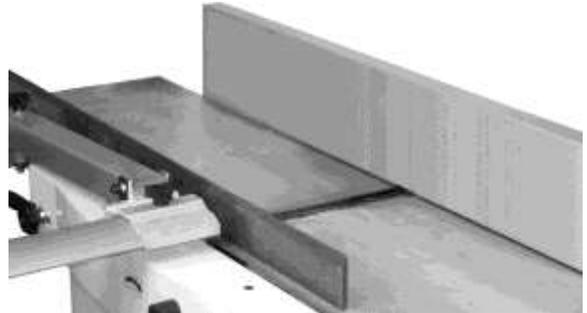

Figure 12
5. Place a straight edge (D) across the front of the outfeed table (F) and extending over the infeed table (G). Note the position of the infeed table (G).
Note: The position of the straight edge as shown in figure 12 with respect to the fence (H).
6. Raise the infeed table (G) until it contacts the straight edge (D).
The straight edge should lie level across both tables. Move the straight edge to the back of the outfeed table as shown in Figure 12 and perform the same test.